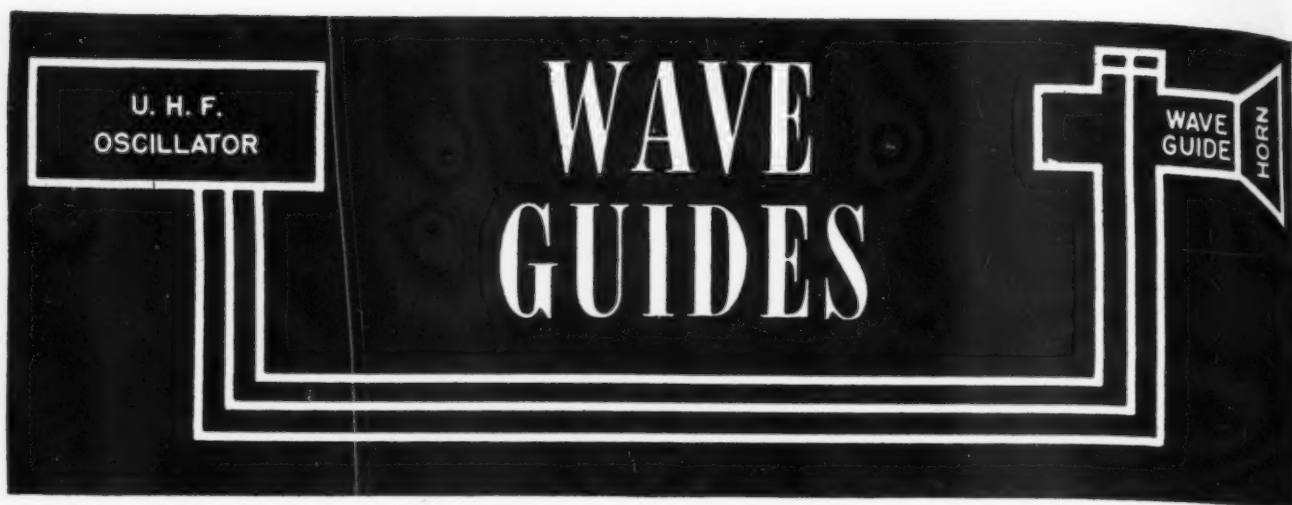

Fig. 1. A block diagram of a wave guide used to transmit ultra-high frequencies.
Fig. 1. Angle C should be greater than  $30^\circ$  to avoid coast line effect. (1) Effect of coast line when aircraft is taking bearing. Black position is actual; white is indicated. This condition would also exist, to a lesser degree, if bearings were taken on Station B. (2) Ideal condition for DF. (3) Effect of hill on track bearings. Black position is actual; white indicated by terrain distortion. Satisfactory bearings can be taken on Station B. (4) Similar conditions to three. (5) Good bearings on A and B, although caution must be observed in using A, since path of wave is still close to obstruction. Dotted line shows danger of reflection and the effect that obstructions would have on signals.
A diagram of a wave guide set-up is shown drawn in Figure 1.
We will assume that the sides of the wave guide (still rectangular) are made of a material that has infinite conductivity. They will not support any potential difference because an "infinite" current flow would immediately take place, neutralizing the potential difference. Any electric lines of force that we have must cut the surfaces at right angles, since at this angle the electric field would not cause any current to flow. In addition, at their points of crossing, the magnetic lines of force and the electric lines will have to be at right angles to each other. Furthermore, it should also be remembered that magnetic lines of force form complete paths. A look at Figure 2A will show an end view of a rectangular wave guide (looking into the horn of Fig. 1). In the diagram the closer the solid arrows are bunched together, the stronger the field. At the two sides, of course, we must not have any electric lines of force because then a current would flow, dis-